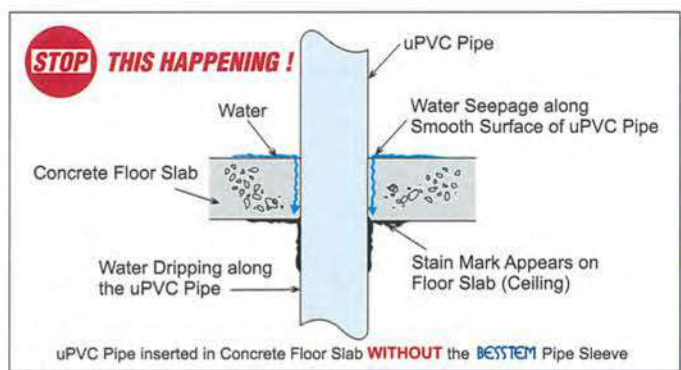

Fig. 10
- The external ribs help the **BESSTEM** Pipe Sleeve hold firm inside the concrete floor slab and also prevent water seepage along the external smooth surface of the uPVC pipes (see Fig. 10).